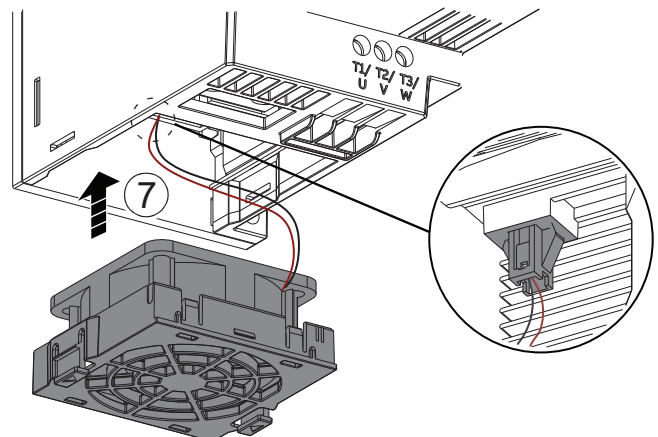

Fig. 69 — Connect Fan To Power
7. Connect the fan power cable. (See Fig. 69.)